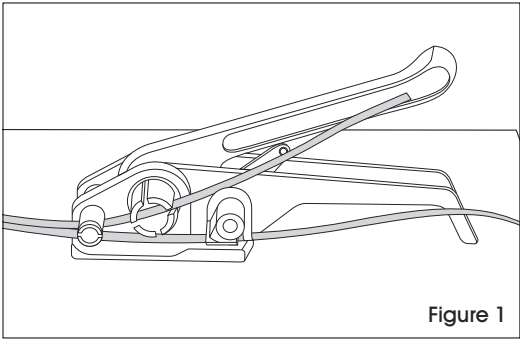

Figure 1
3. Insert the shorter end of strapping under the gripper plate and cutter wheel, leaving approximately 5" of strapping off the front end. (See Figure 1)